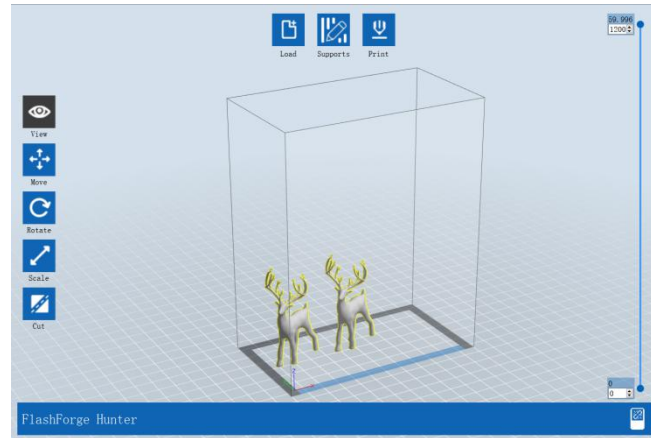

Figure 25 Centered High Model
- Centered High Model:After selecting [Centered High model], the loaded model will be automatically placed according to the middle and higher model, as shown in Figure 25.